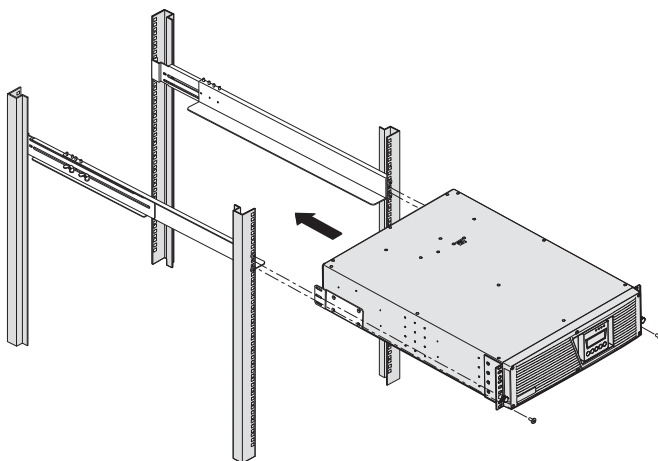

Figure 9. Installing the Cabinets
13. Secure the front of the cabinet to the rack using two M6x12 mm round-head screws on each side (see Figure 9).